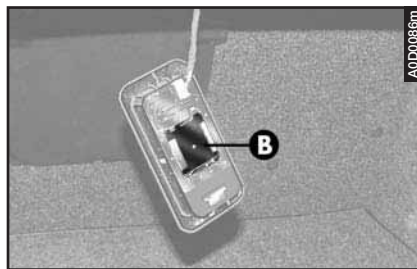

fig. 81
– Lift the protection cover (B- fig. 81).